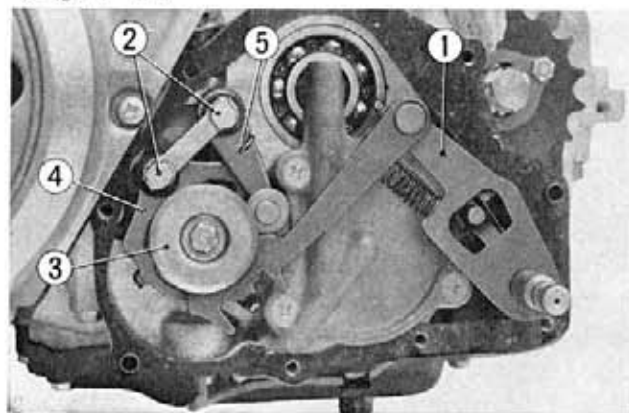

Fig. 3-70 ① Gear shift arm
② Rotor puller
5. Remove the gear shift arm, gear shift side plate, gear shift drum stopper and the gear shift positive stopper. (Fig. 3-70)